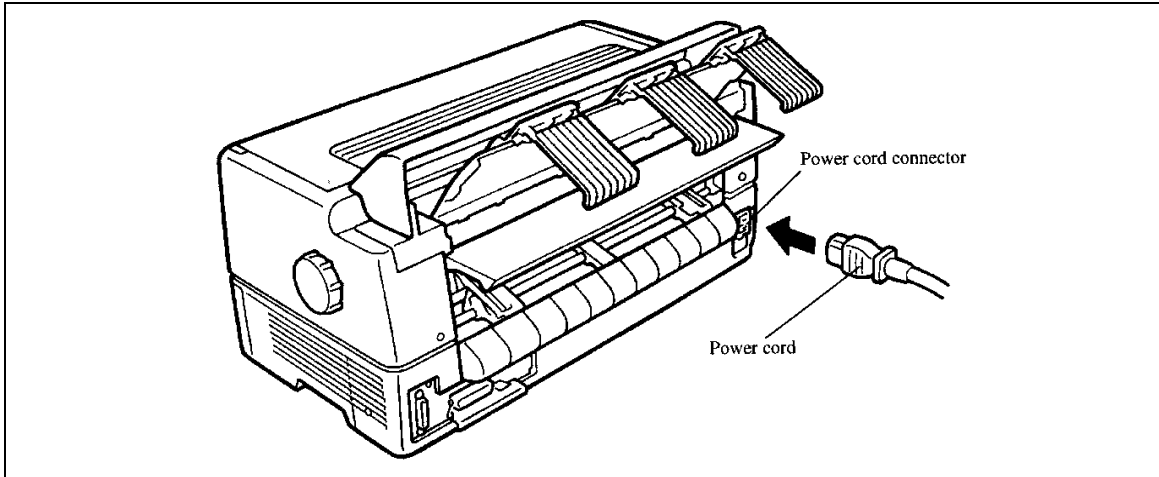

Figure 3-37. Connect the Power Cord.
- (8) Connect the power cord, as follows, refer to figure 3-37.